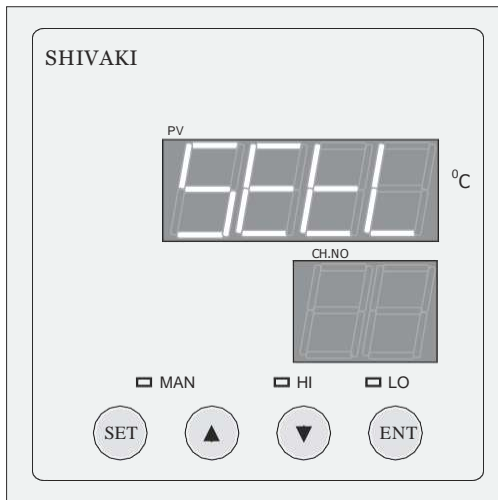

Fig.2.3
The top display (PV) shows the presetted value. The bottom display shows the channel no for which the setting is to be done. Use the  $\wedge$  &  $\vee$  keys to set the desired digit value Press the ENT key. This completes setting for first channel. Similarlay Repeat the process for setting the Low limit for the other channel If any channel goes beyond the set point then the (LO) L.E.D glows ON. Refer Fig.2.3